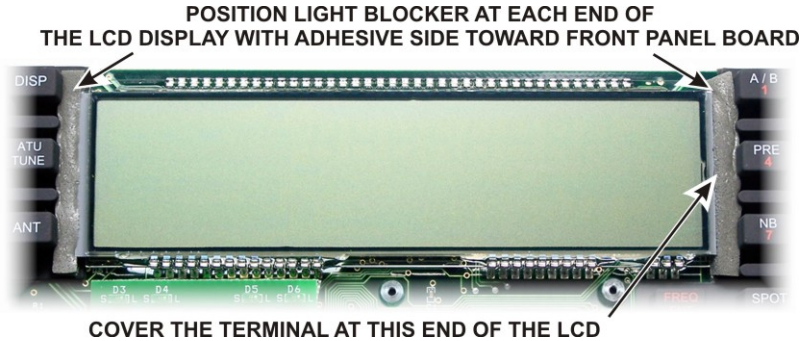

Figure 38. Installing LCD Light Blocker.
□ Install the two soft foam light blockers at the ends of the LCD display as shown in Figure 38. Remove the paper strip covering the adhesive on each blocker and stick that side against the board (or the lip at the base of the switch buttons) so it stands up between the switches and the LCD. Push them down so the adhesive side is against the board or base of the switches and that they cover ends of the LCD, including the terminals at the right hand end of the LCD as shown.